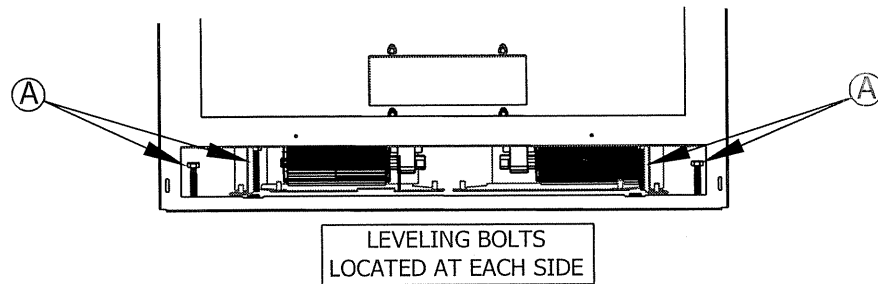

Figure E-1
2. If necessary level the unit by threading the leveling bolts (included in the components packet) into the nuts mounted in the bottom of the unit behind the lower grill. See figure E-1.